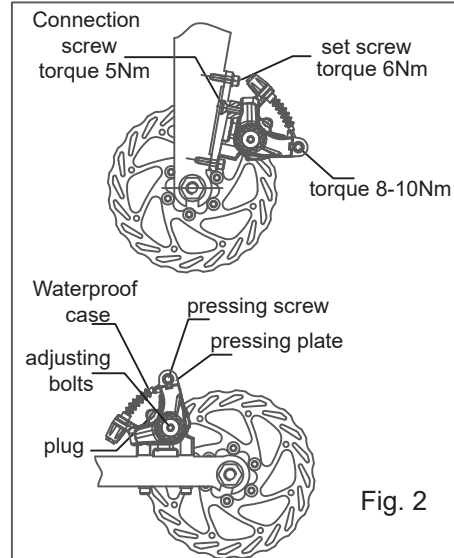
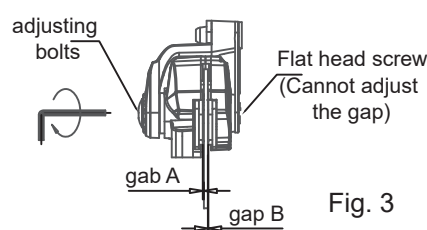

Fig. 2
Fig. 3
Caliper installation (Fig. 2)
S6 models without adjusting turn-knob (Fig. 3), insert a 4 mm Allen key into the hex socket of adjusting bolt in the caliper. Then turn the adjusting bolt slowly in a clockwise direction to adjust the clearance between the brake pads to 0.3-0.4 mm.
- (b) B gap: When B gap is too large, the connection screws have to be loosened (Fig. 2). A 4 mm Allen key is used to slowly turn the adjustment bolt in a clockwise direction (Fig. 3), until the clearance between rotor and brake pad is 0.3-0.4 mm for each